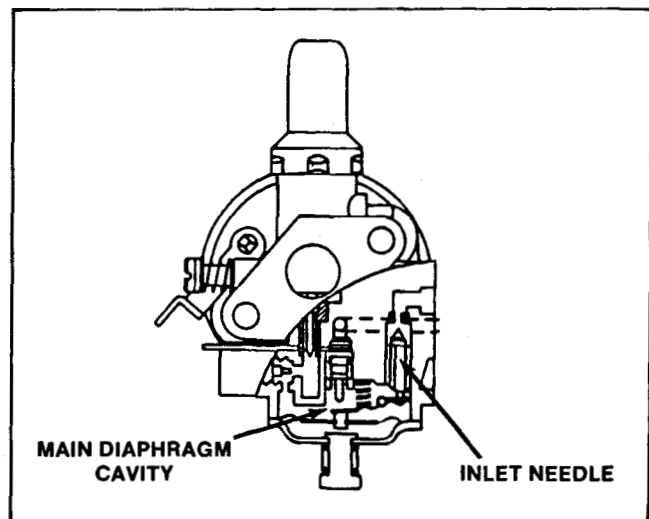

Figure 11
5. The fuel enters the main diaphragm cavity. See Fig. 11.